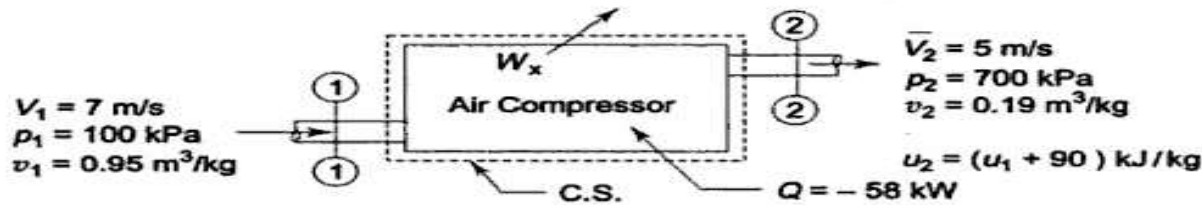

Fig. Ex. 1
**Solution** Figure Ex. 1 shows the details of the problem.